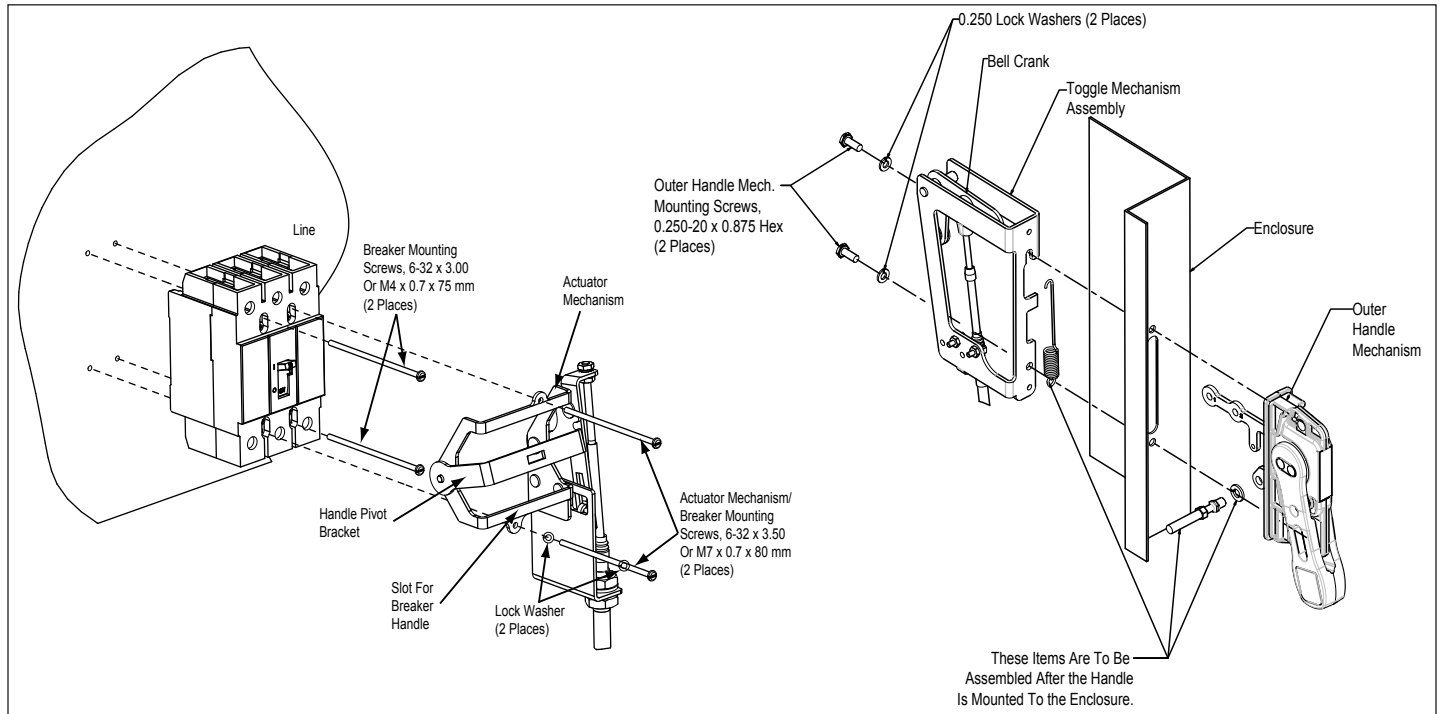

Figure 3. Securing the Actuator Mechanism to the Breaker and Toggle Mechanism and Handle to the Enclosure.
For assembly steps, refer to Figure 3, unless otherwise noted.
5. Place the actuator mechanism around the front of the breaker (see Figure 3). Orient the handle pivot bracket so that the slot captures the breaker handle. Fasten securely with the two 6-32 x 3.0 in. actuator mechanism/breaker mounting screws and lock washers, as shown. Tighten to 10 in-lb (1.1 N•m).